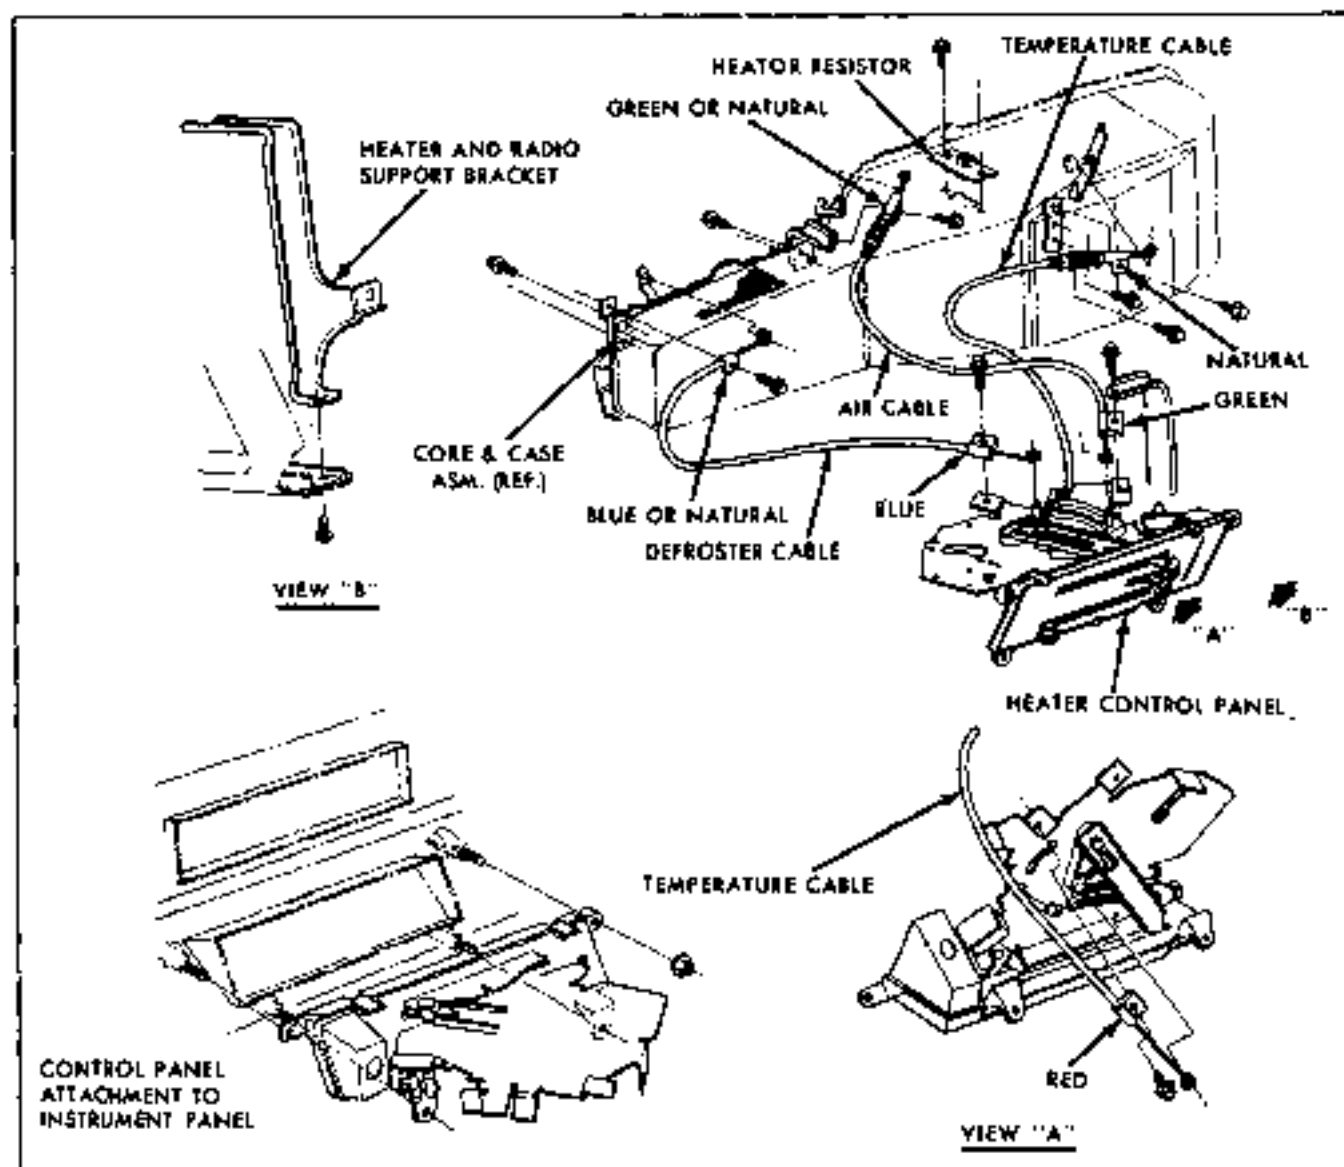
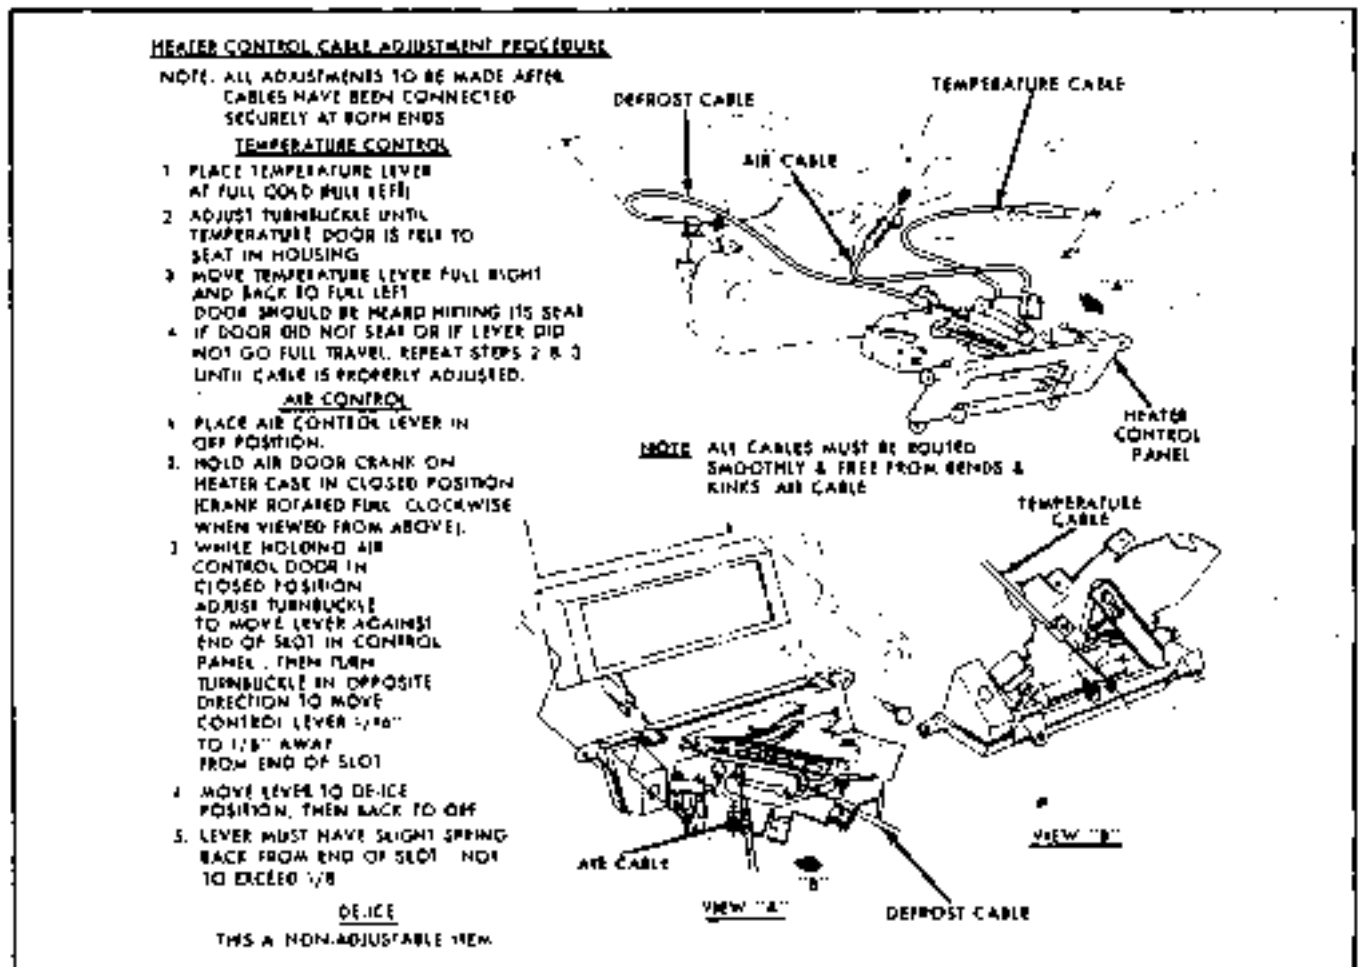

Fig 1-3 Tempest-Heater Cable Routing
Fig. 1-4 Firebird-Heater Cable Routing
2. Hold lever on top of heater case, Fig. 1-3 Tempest or Fig. 1-4 Firebird, in full cold position (Full left or clockwise when viewed from above).